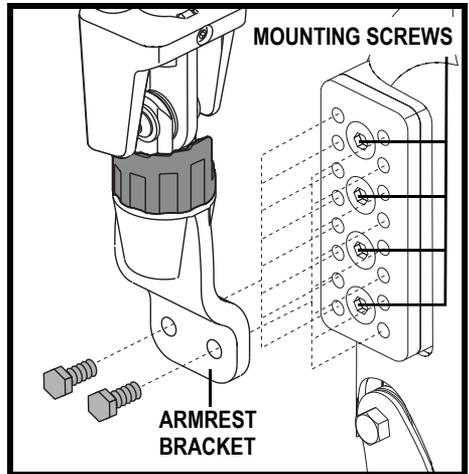

Figure 7. Cantilever Armrest Height Adjustment
- Remove and retain the two hex screws from the armrest bracket. **See figure 7.**